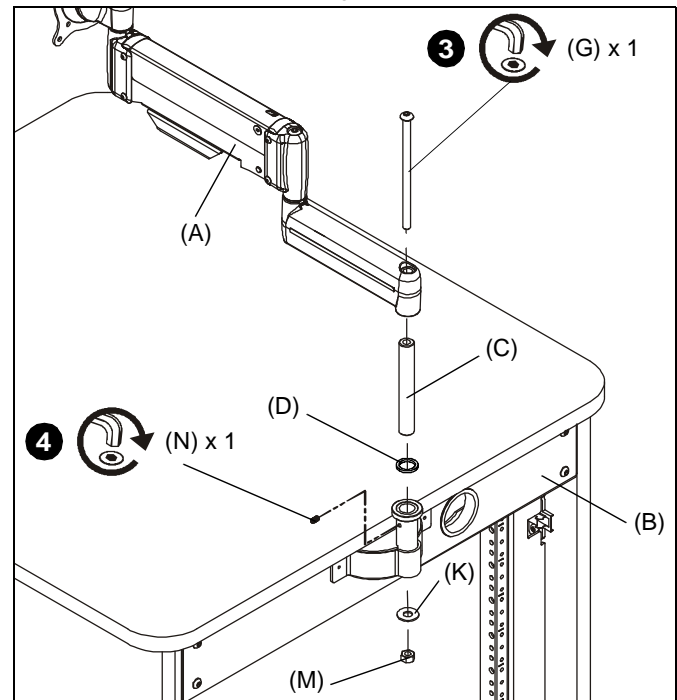

Figure 2
3. Attach F1 mount arm with head assembly (A) to F1 monitor mount (B) using one 5/16-18 x 5-1/2" button head cap screw (G), the monitor mount pin (C), one nylon spacer (D), one 5/16" washer (K) and one 5/16" nut (M). (See Figure 2)
4. Insert and tighten one 10-32 x 3/8" set screw (N) into monitor mount (B). (See Figure 2)